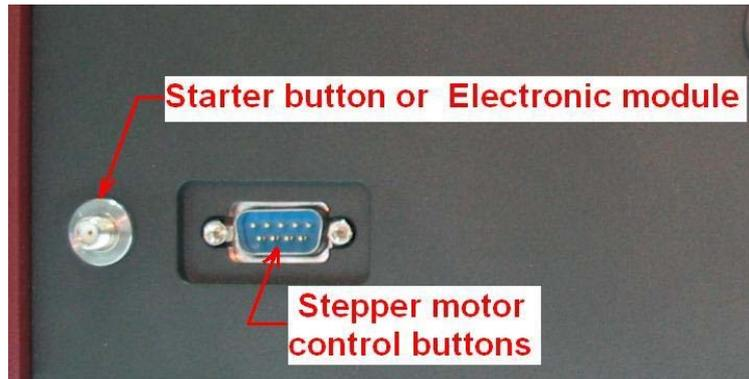

Figure 5.
10. Connect the Starter button to the laser head (Fig. 5). Tap power supply into power line.
- *Connect the control buttons to the laser head (Fig. 5). Insert the power supply into power line. Detailed description of this device can be found on the CD with software for device.*
- *Connect the Electronic module (Fig.5) to the laser head. Tap power supply in to power line. Detailed description of this device can be found in section 9 of the current manual.*